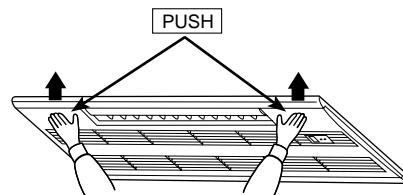

Figure 2
- (2) Pull out the handle of air intake grille strongly toward you. (See Figure 2)